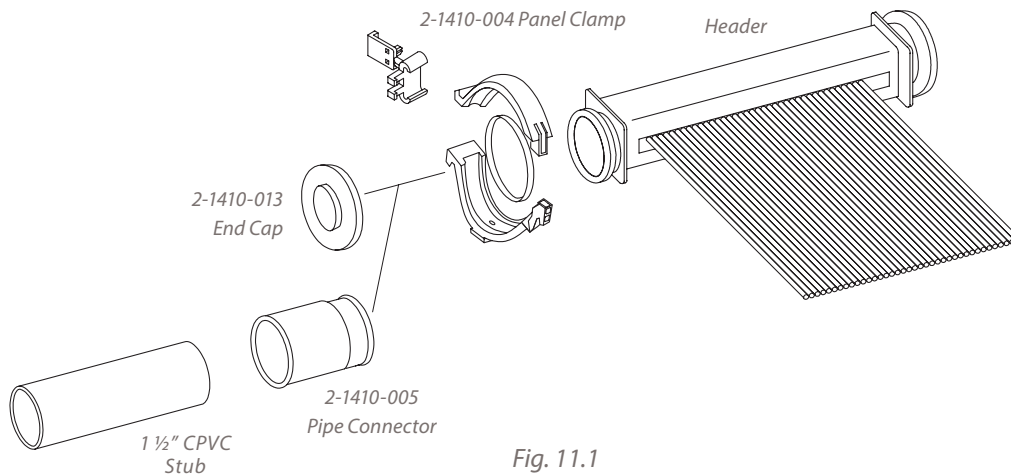

Fig. 11.1
3. Cement the CPVC pipe to the (2-1410-005) pipe connector as shown in Fig. 11.1.
4. The (2-1410-005) Pipe Connector allows (1) 1/2" CPVC/PVC Pipe or a (1) 1/2" St. 90 to be glued directly into the socket, or a 2" CPVC/PVC 90 to be glued on the outside. CPVC or **multi-purpose glue** should be used when attaching CPVC fittings or pipe to the pipe connectors to provide for a durable connection. A 90 degree CPVC/PVC fitting and vertical pipe run of at least 5' should always be attached to the return line pipe connector to allow for lateral expansion and contraction of the return line pipe run. **PVC pipe may only be used on the feed side. CPVC must be used on the return side and may be used throughout.**